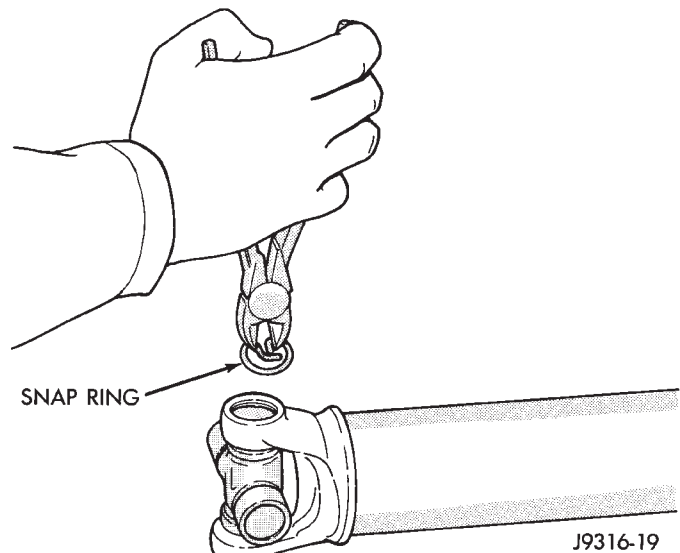

Fig. 14 Remove Snap Ring
(1) Remove the propeller shaft.
(2) Using a soft drift, tap the outside of the bearing cap assembly to loosen snap ring.
(3) Remove snap rings from both sides of yoke (Fig. 14).